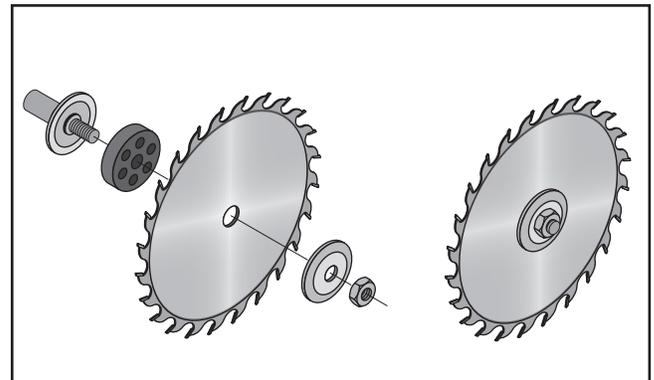

Figure 44. Main blade installation and order of assembly.
7. Install the blade as shown in **Figure 44**, making sure the teeth face toward the scoring blade. **DO NOT** overtighten the arbor nut.